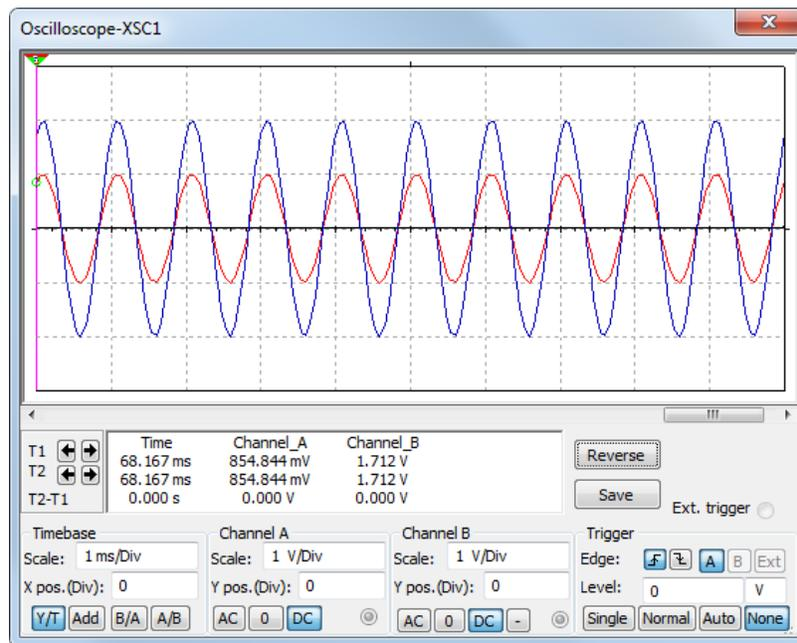

Figure 9. Simulation results.
2. Double-click on the **Oscilloscope** to open its Front Panel and observe the simulation results (see Figure 9). As expected, the input signal is being amplified by a factor of 2.